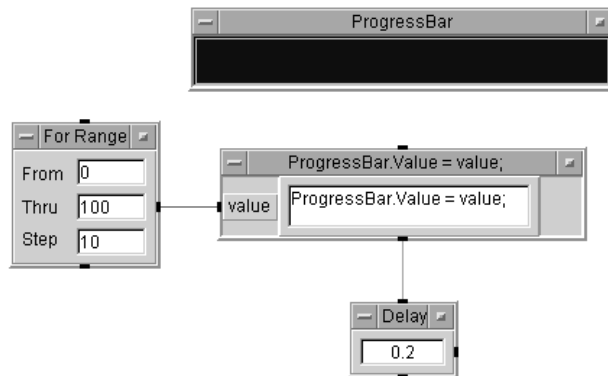

Figure 245 Using the ActiveX Control “ProgressBar”
- 5 To slow down program execution so that you can see the ProgressBar updating, select **Flow** ⇒ **Delay** and place the object to the right of the For Range object. Set it to .2. Connect the ProgressBar sequence output pin to the Delay object sequence input pin, as shown in Figure 245, and run the program.